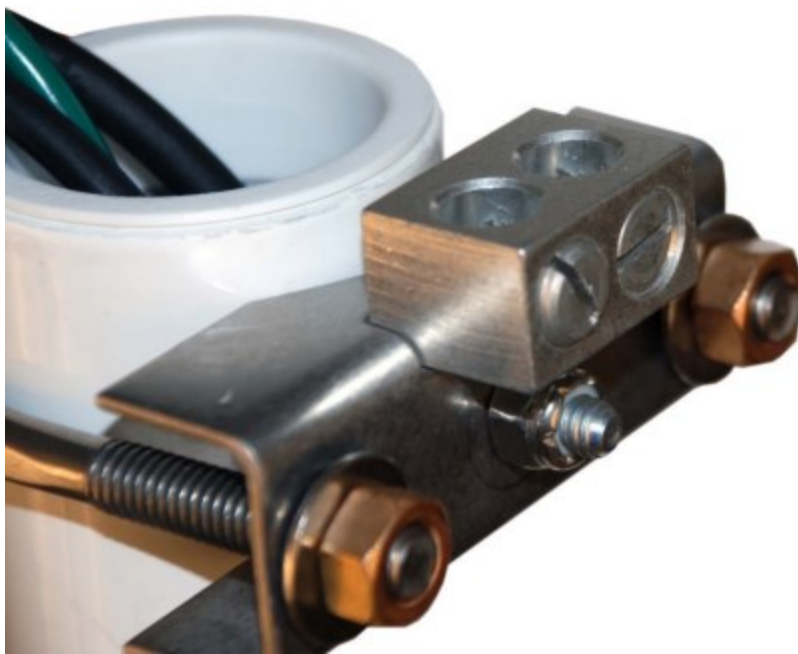

FIGURE 6-40. Lightning rod bracket installation
Install lightning rod as shown in FIGURE 6-40 (p. 57) and FIGURE 6-41 (p. 58).
1. Carefully mount the lightning rod clamp to the top of the pole (FIGURE 6-40 (p. 57)). Position the clamp so it won't interfere with the connector cover.